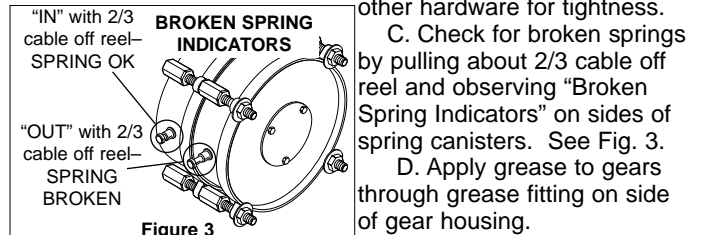

Figure 3
C. Check for broken springs by pulling about 2/3 cable off reel and observing "Broken Spring Indicators" on sides of spring canisters. See Fig. 3.